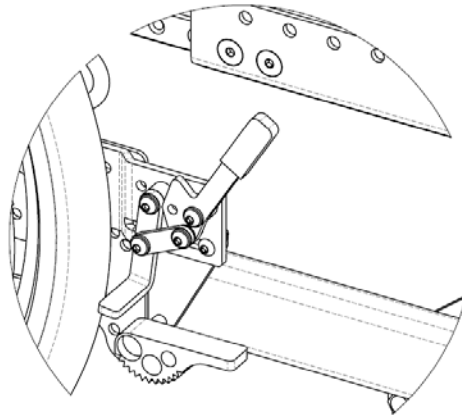

Figure 10.26: Wheel Lock with Anti-Rollback Device
6. To engage the anti-rollback device (Figure 10.26), push the anti-rollback cam into the down position.